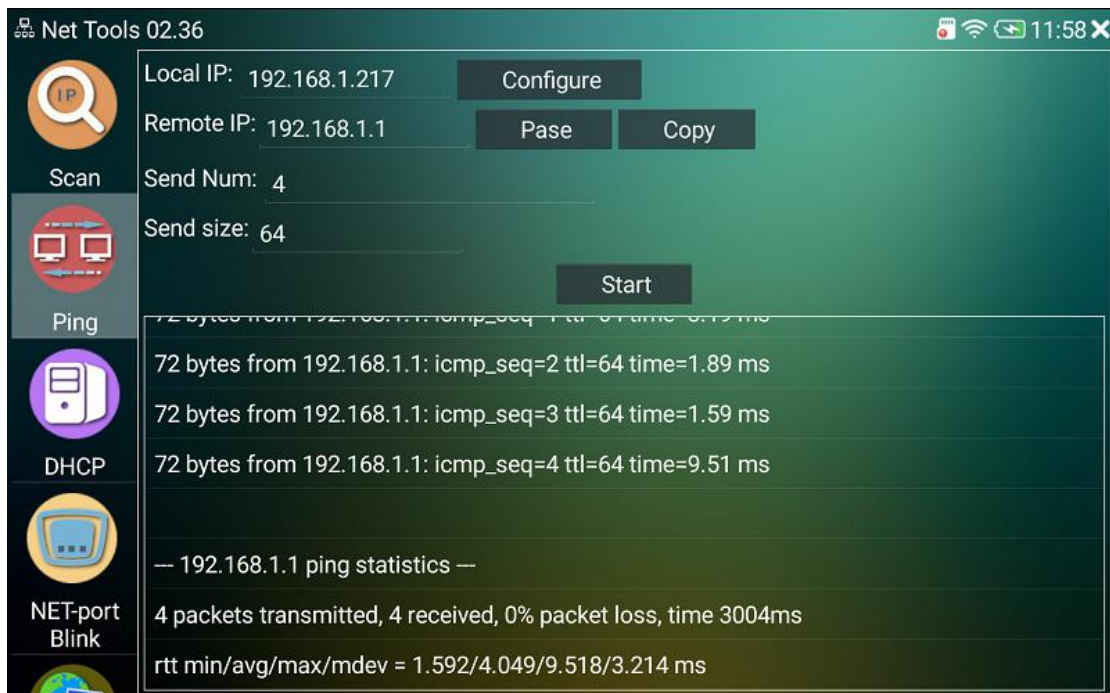

Figure 33
2) PING Tool: Touch ‘Ping’ icon on the left bar to perform network debugging conveniently, input ‘Remote IP’, ‘Send Num’ and ‘Send size’ can use default value, you can test current network condition and PING value, touch ‘Start’ button to perform this operation, as shown in Figure 33